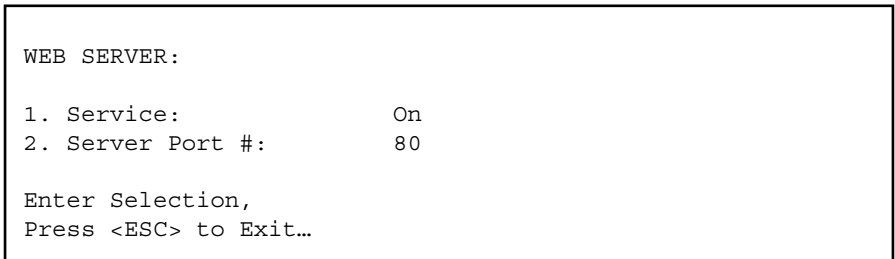

Figure 4-15. Web Server Parameters menu—text interface.
- Text Interface: Type /W and press **Enter**. The Web Server Parameters menu will appear (Figure 4-15).